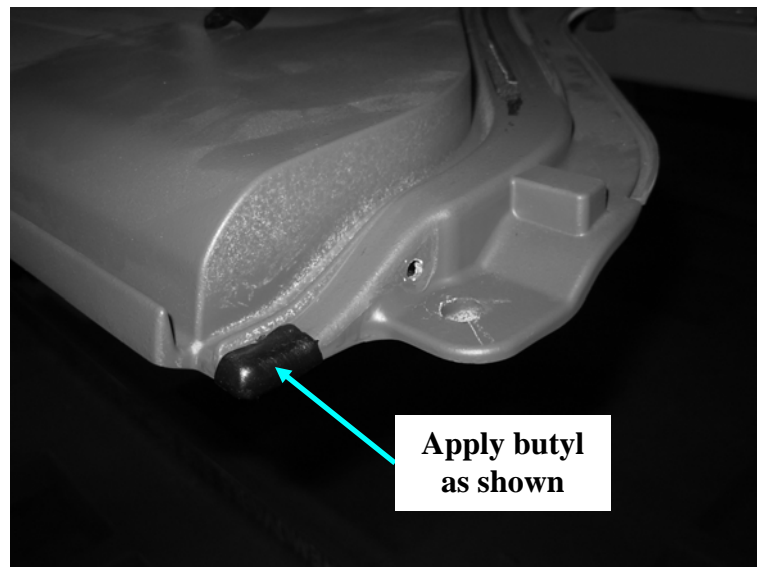

Figure 36
- Pre-apply butyl (68027813AA) on hard top prior to installing the seal (Figure 36)
- It is critical that then end molds are installed correctly and sufficient pressure is applied to wet out the butyl/tape (Figure 36)